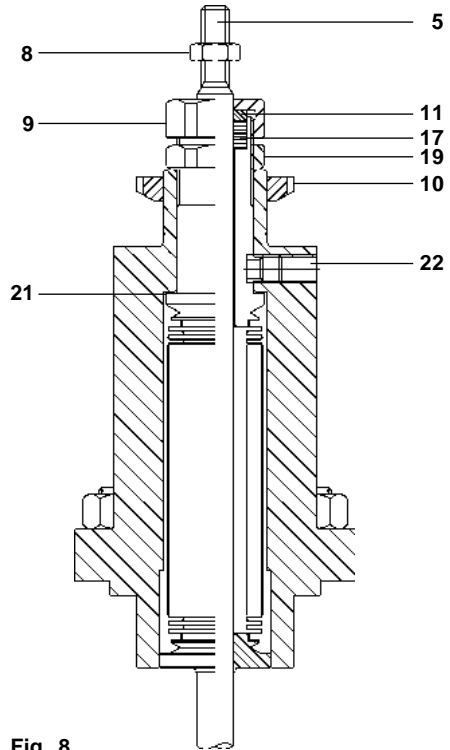

Fig. 8
4.3.1 Procedure for renewing bellows stem seals (Refer to Figure 8)